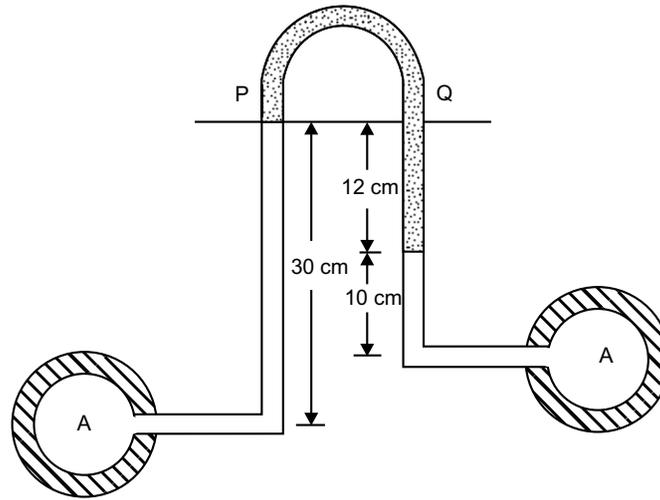

Fig. 1
- (b) Water is flowing through two different pipes A and B to which an inverted differential manometer having an oil of sp.gr. 0.9 is connected. The pressure in the pipe A is 2.5 m of water. Find the pressure in the pipe B for the manometer readings as shown in Fig. 1. 8